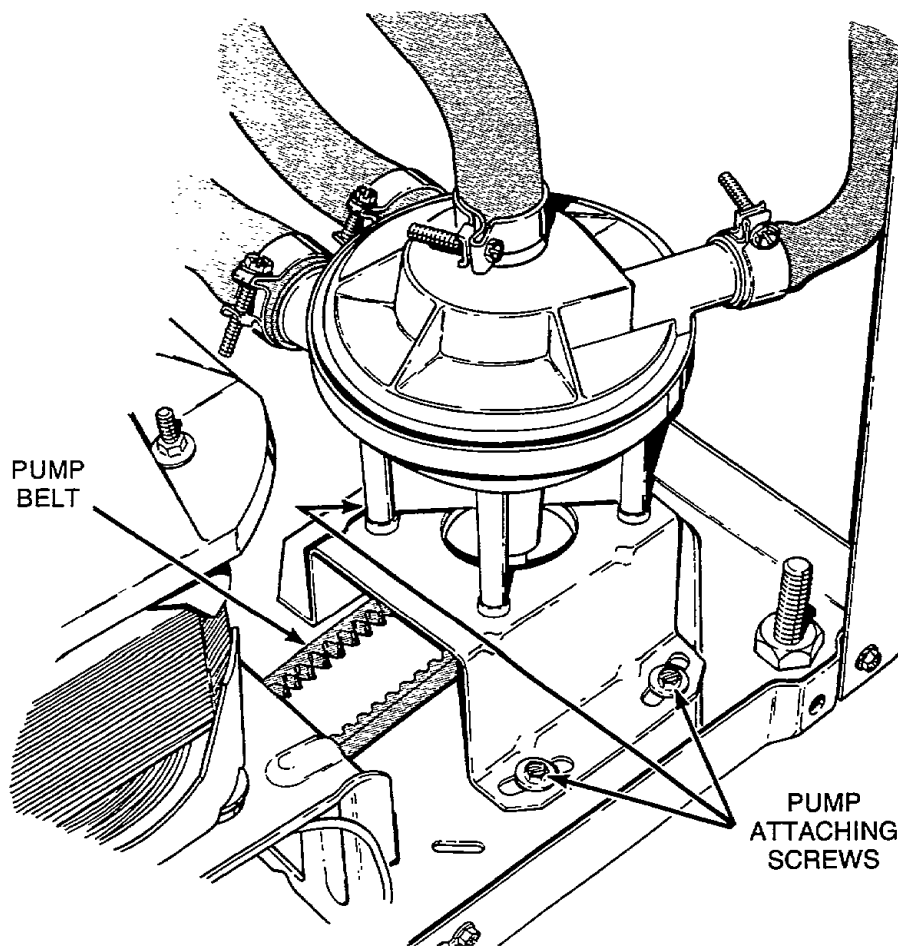

Figure 11
- c. Loosen two front mounting screws and one rear mounting screw holding pump and bracket to washer base, *Figure 11*, pivot entire assembly toward motor to loosen belt tension.
- c. Remove two front mounting screws and loosen the rear mounting screw holding pump and bracket to washer base, *Figure 11*, pivot entire assembly toward motor to loosen belt tension.